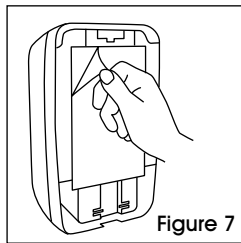

Figure 7
4. Peel paper off of installation tape, line up screws with anchors, and press firmly into position. (See Figure 7)